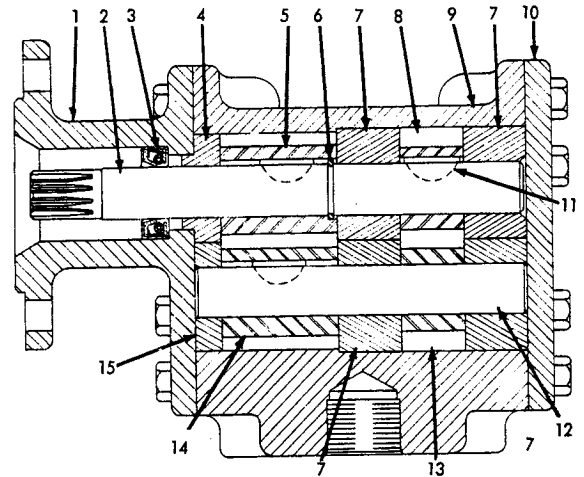

Fig. 6 -- Transmission Oil Pump (HD6EP Prior to S/N 18754, HD7G Prior to S/N 24276)
- b. Remove back plate, Fig. 6; tap gear case lightly on soft block to remove shafts, gears, and bearings. Mark each set of gears while still in case so they may be reinstalled in original position if reused. Remove gears and bearings from each shaft; remove snap ring from drive shaft.
- c. Remove front plate, Fig. 6; drive oil seal out front end of plate.